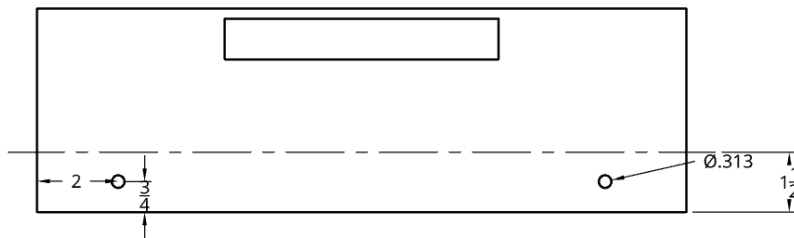

Figure 9. Manufacturing Steps 3-4
3. On the side opposite the cut-out, drill two holes in the baseplate, each 2" in from the ends of the plate and 3/4" from the bottom of the plate (see figure 9). This is where the threaded rivets will be installed, so the diameter of these holes is dependent on the size of them. This hole can also be laser cut.